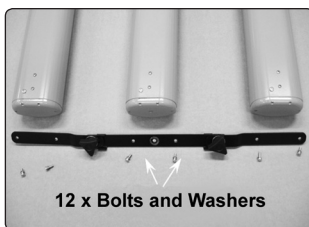

fig.2
- 4.2.2. Fit the cassette strap assemblies with the 12 bolts and washers to the cassettes (fig.2).